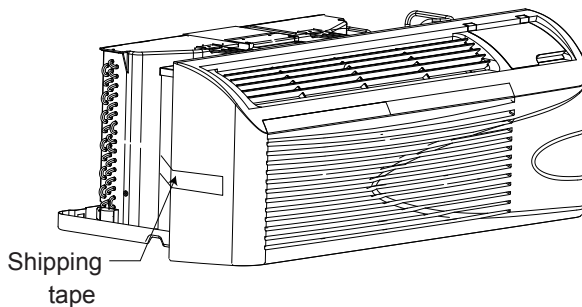

Fig. 8 – Shipping Tape Location
1. Carefully remove shipping tape from the front panel and vent door. See Fig. 8.